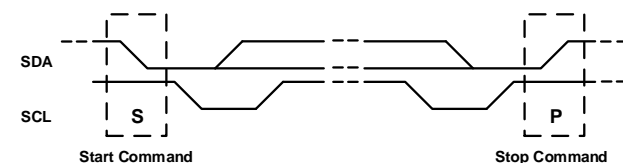

Figure 22: Start and Stop Commands
Start (S) and stop (P) commands are signaled by the master device, which signifies the beginning and the end of the I²C transfer. A start command is defined as the SDA signal transitioning from high to low while SCL is high. A stop command is defined as the SDA signal transitioning from low to high while SCL is high (see Figure 22).